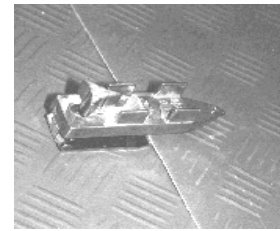

Fig 5
- Utilizing the notches at the seam edge, adjust the underscriber for the required depth and underscribe the top sheet (**Fig. 5**). Use a Crain #188 Hinge Scriber or equivalent. Apply only light pressure is required to scribe the ComforTech product. Excessive pressure could result in distorting the seam edge. **Stop: If you are not skilled in the use of this underscriber, straight edge or double-cut the material.**